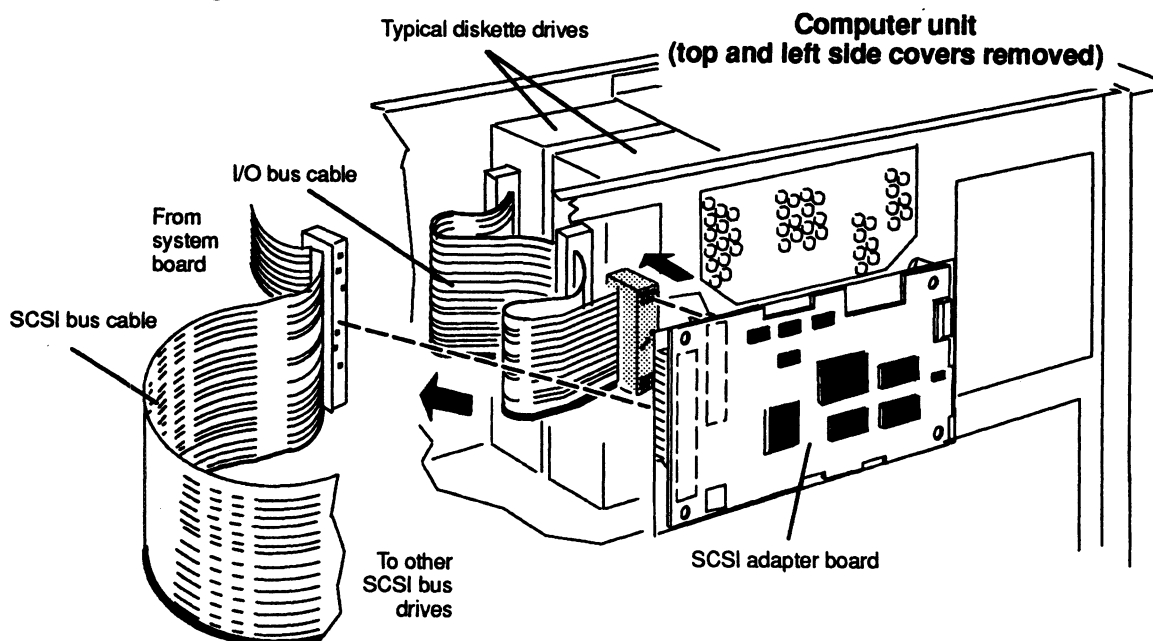

Figure 6-14 Unplugging the SCSI Bus and I/O Bus Cables from the SCSI Adapter Board
1. Unplug the SCSI bus and I/O bus cables from the SCSI adapter board as shown in Figure 6-14.